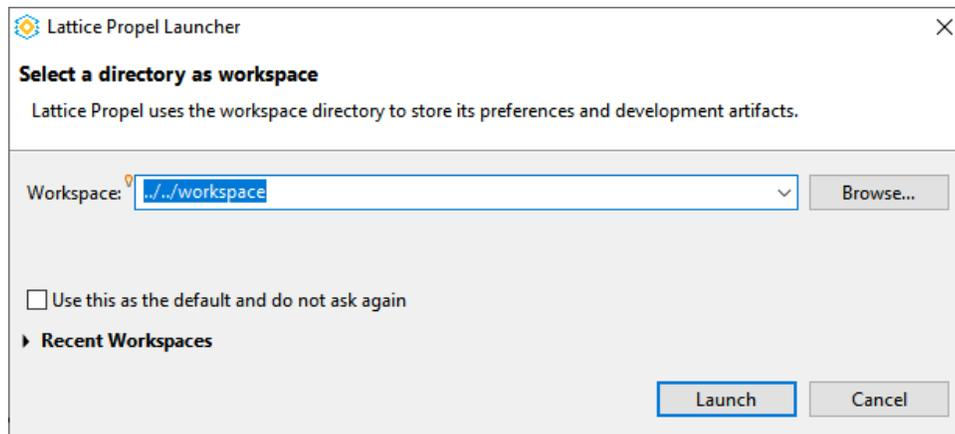

Figure 2.73. Lattice Propel Launcher Wizard
1. Click the **Run Propel** icon  from the Propel Builder GUI Toolbar. Lattice Propel Launcher (Figure 2.73) opens.